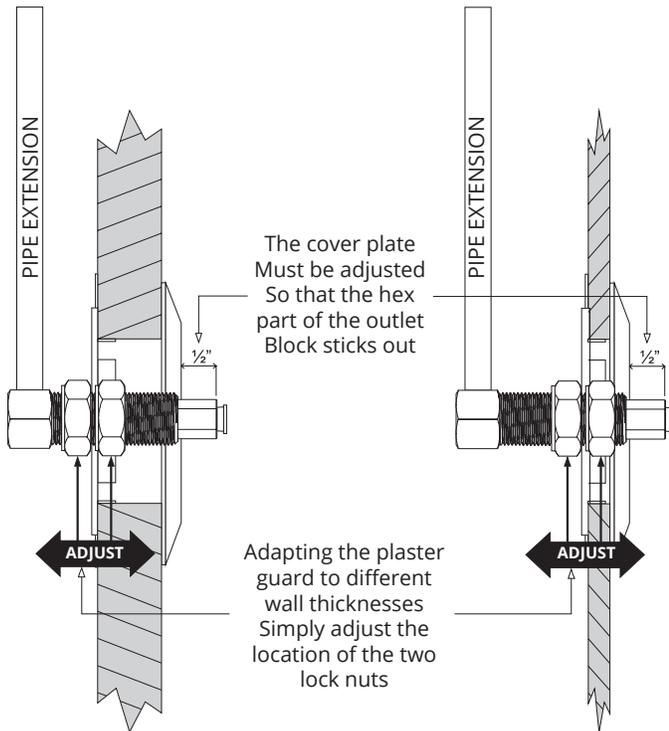

Figure 2.7 - Wall Thickness Adjustment
- The cover plate must be adjusted so that the hex part of the outlet block sticks out by 1/2" as shown on Figures 2.7 below.